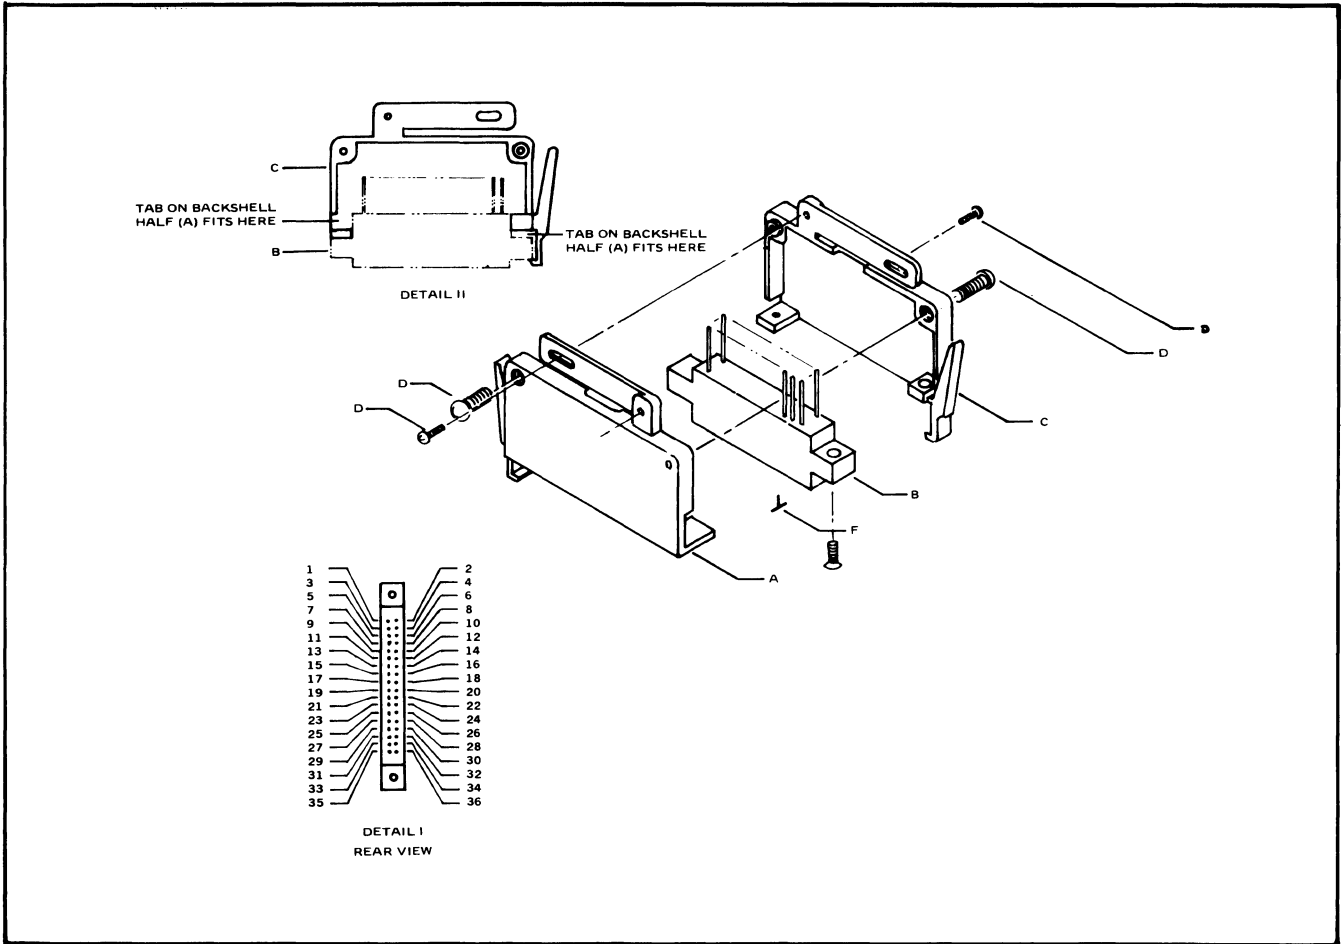

Figure 6-1. DOU, RCU MATING CONNECTOR
- c. Mount Connector (B) into Backshell half (C). Refer to detail II of Figure 6-1.
- d. Mount Backshell half (A) onto Backshell half (C). When correctly mounted together, the Backshell halves snap in place.
- e. Secure Backshell halves (A) and (C) together with 4 screws (D), supplied.
- f. Secure Connector (B) to Backshell halves (A) and (C) with two screws (E), supplied.